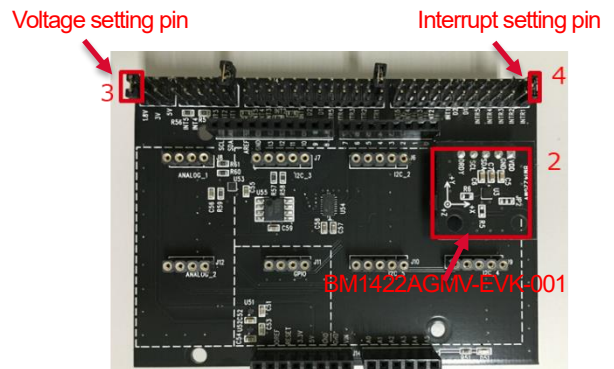

Figure 2. Connection between BM1422AGMV-EVK-001 and SensorShield
2. Connect BM1422AGMV-EVK-001 to the socket of I2C\_1 on SensorShield (Figure 2)
3. Set Voltage of SensorShield to 1.8V or 3.0V (Figure 2)
4. Set Interrupt of SensorShield to INTR1 (Figure 2)